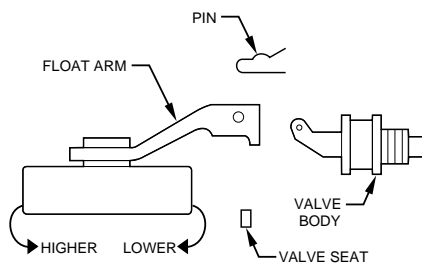

Fig. 11 — Float Arm Removal
The Model HUMCCWTR is controlled by a float valve. Turning off the furnace will not affect the water flow until float level is achieved. (See Fig. 11.)
- Inspect the float assembly. Remove the float arm from the valve body by sliding out the pin and lifting off the float arm. (See Fig. 11.) Inspect the rubber valve seat located inside the float arm. If the seat appears to be nicked or worn, invert the seat or replace it with the spare valve seat located on the float arm. Inspect the water opening in the valve body. If the opening is clogged, use a pin to remove the obstruction. Remove any accumulated deposits from the valve body and float arm.